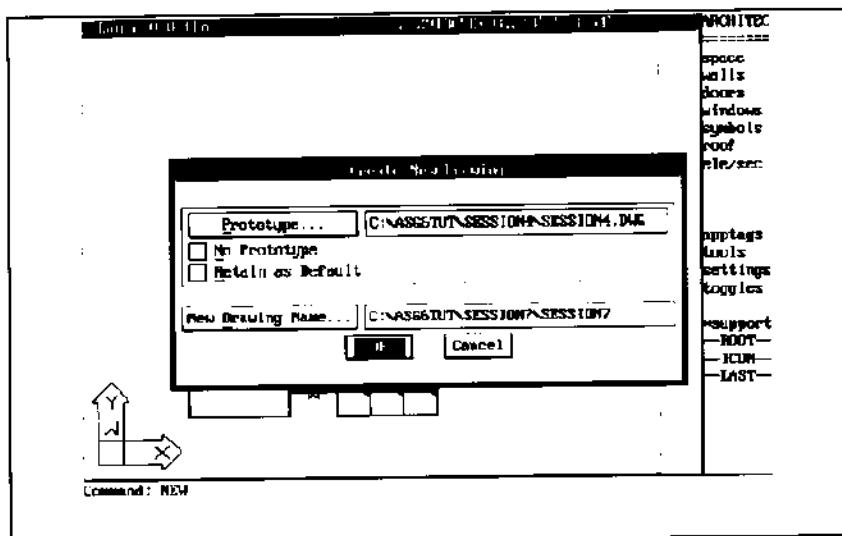

Figure 68.
2. Enter the path and drawing name in the Create New Drawing dialog box shown in Figure 68. The drawing from Session 4 should still be set as the prototype drawing with an X in the box adjacent to Retain as Default.